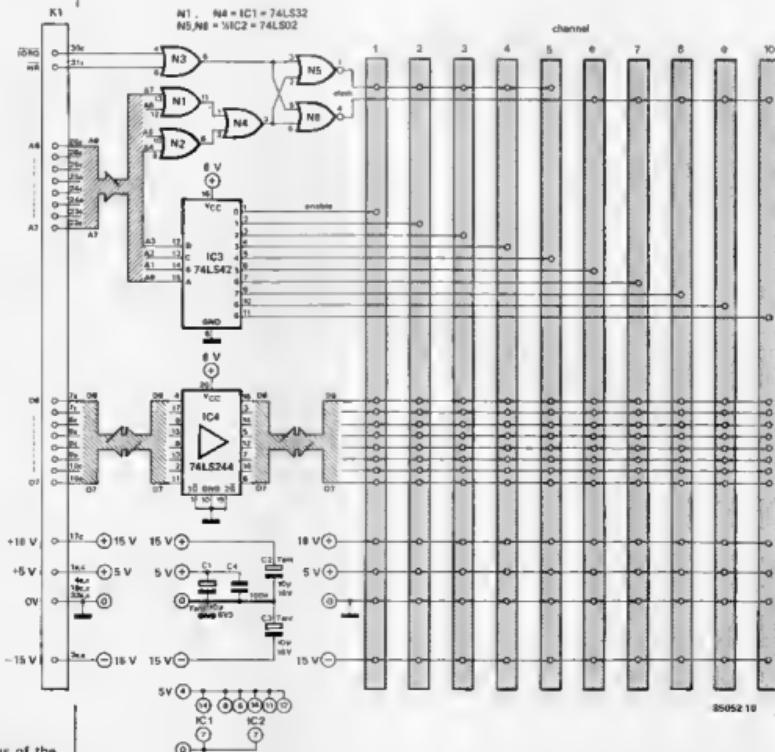

Figure 10. The bus of the polyphonic synthesizer can be connected to the DCOs in figure 2, 6, and 8 without any modification.
from up to eight octaves, with the possibility of pulse-width modulation, in one channel. If you want to replace the VCO in the *polyphonic synthesizer* (described in a number of issues of *Elektor (UK)* between October 1981 and July 1982) by the DCO, the bus layout of figure 10 may be maintained. The EPROM content is given in table 2.